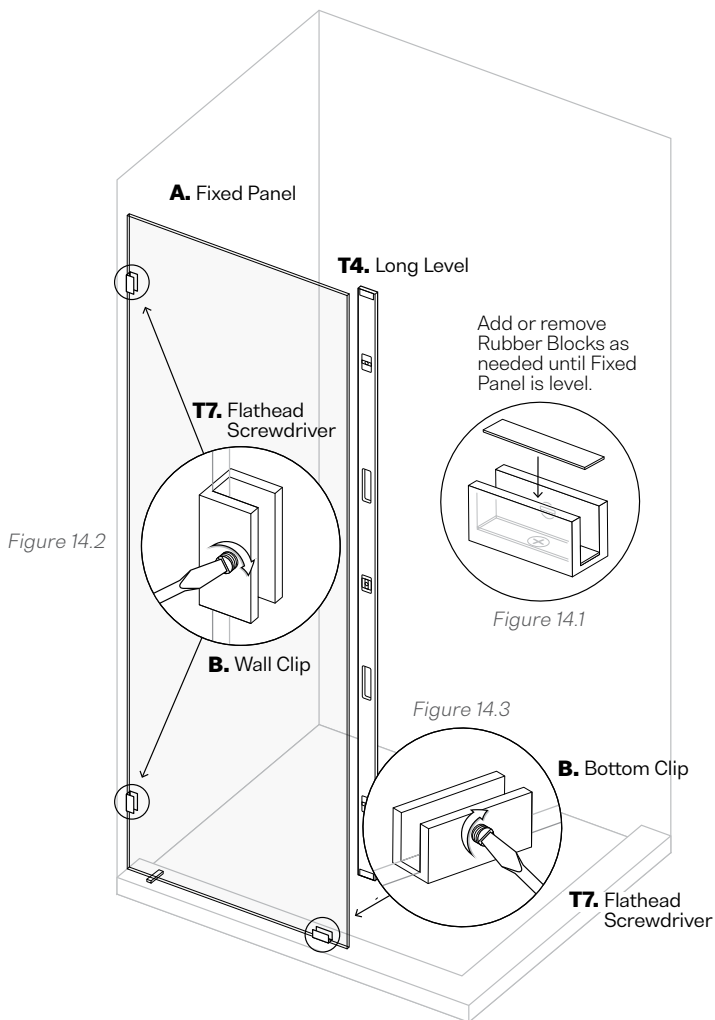

Figure 14.2
- Tighten grub screws in Wall Clips (**B.**) (Fig. 14.2) and Bottom Clips (**B.**) (Fig. 14.3) to secure Fixed Panel (**A.**) in place.